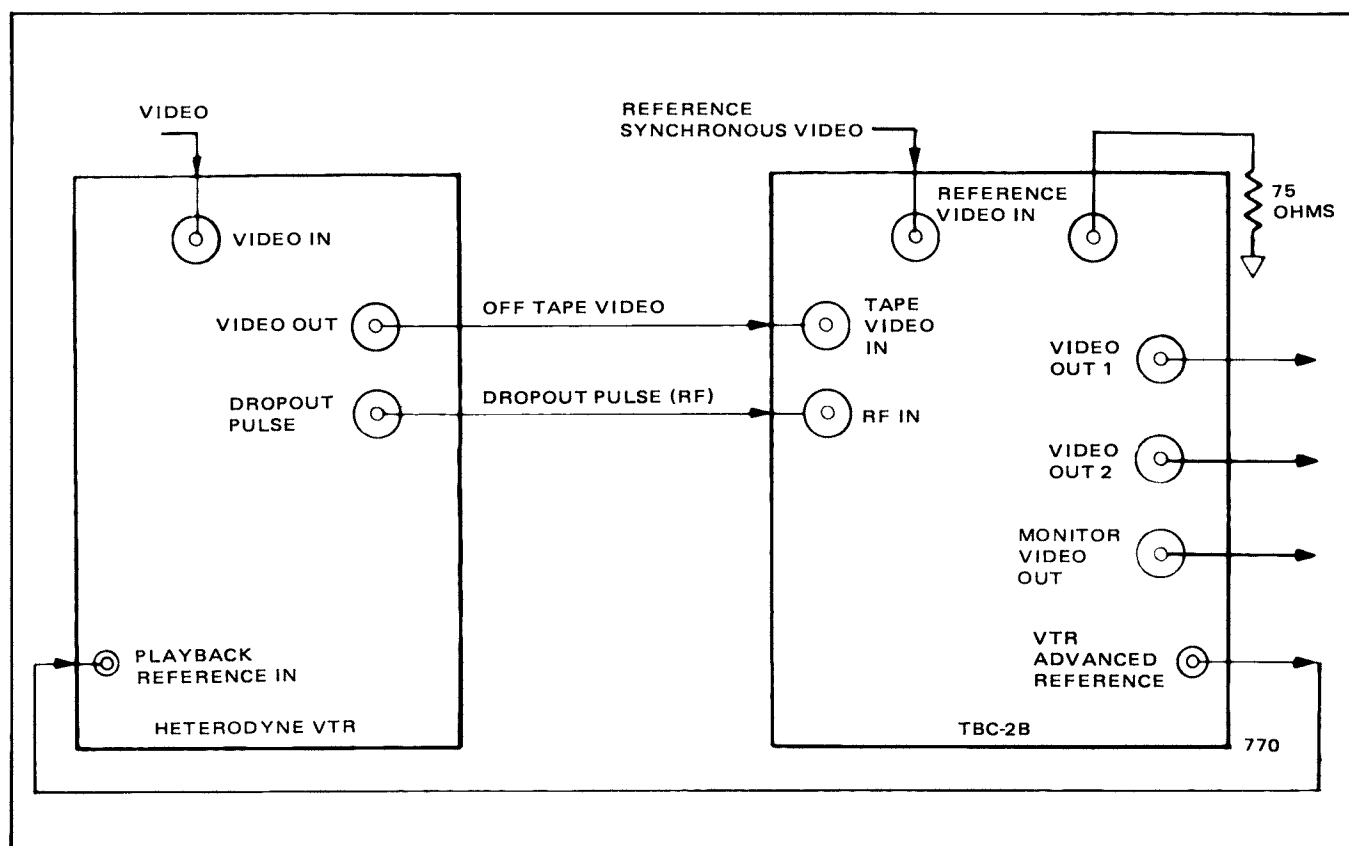

Figure 2-7. TBC-2B/Single-Wire Heterodyne VTR Installation
2. Interconnect the TBC-2B with the VTR in accordance with Figure 2-7.